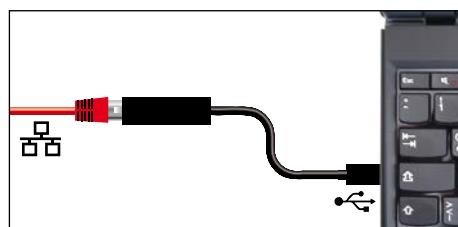

Fig. 8 Converter USB to Ethernet
- USB to Ethernet converter (Fig. 8). Makes it possible to connect the Ethernet connection interface (see page 12) to the USB port of a computer / laptop.